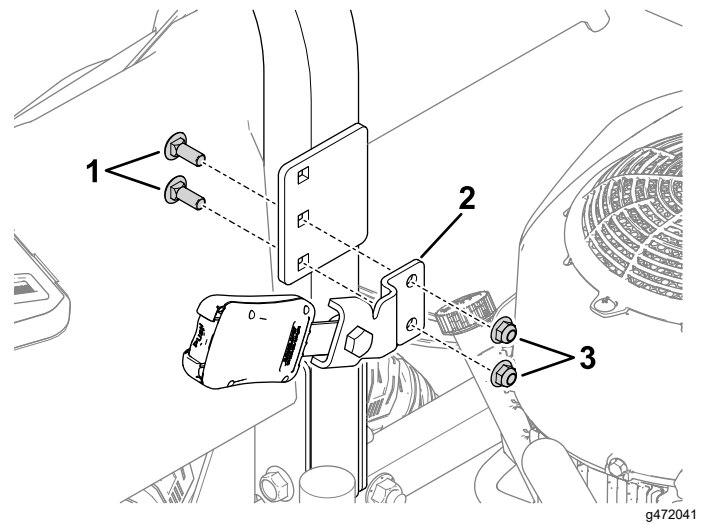

Figure 10
- Install the buckle assembly from step 1 to the inside of the roll bar bracket using 2 carriage bolts (3/8 x 1 inch) and 2 locknuts (3/8 inch) as shown in Figure 10. Repeat on the other side for the tongue assembly.